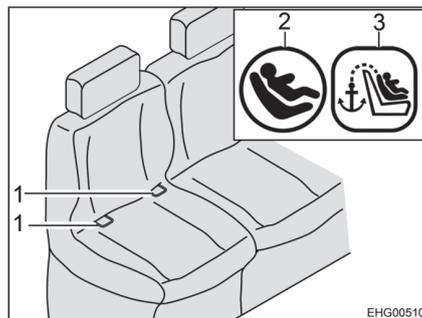
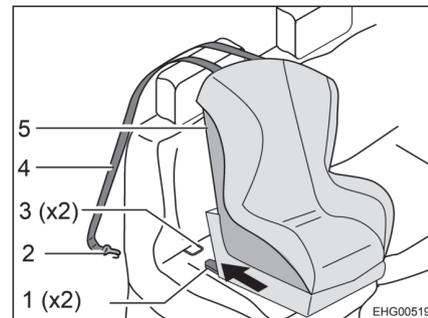

Fig. 14 Seat with ISOFIX
Fig. 15 Fastening with top tether
- Have the connectors (Fig. 15,1) snap into the retaining clips (Fig. 14,1 and Fig. 15,3). While doing this, a distinctive click must be heard.
- With a strong jerk, check if the child seat (Fig. 15,5) is firmly connected.
- Route top tether strap (Fig. 15,4) over the headrest of the vehicle seat.
- Hook the fixing hook (Fig. 15,2) onto the attachment point on the back of the vehicle seat.